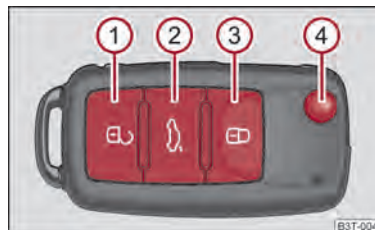

Fig. 25 Remote control key
- Press the button ② ⇒ fig. 25 for about 0.5 seconds. Further information ⇒ page 38.
- Press the button ② ⇒ fig. 25 for about 1 seconds. Further information ⇒ page 38.
- Press the button ② ⇒ fig. 25 for about 1 seconds. Further information ⇒ page 40.
- Press the button ② ⇒ fig. 25 for about 1 seconds. Further information ⇒ page 41.